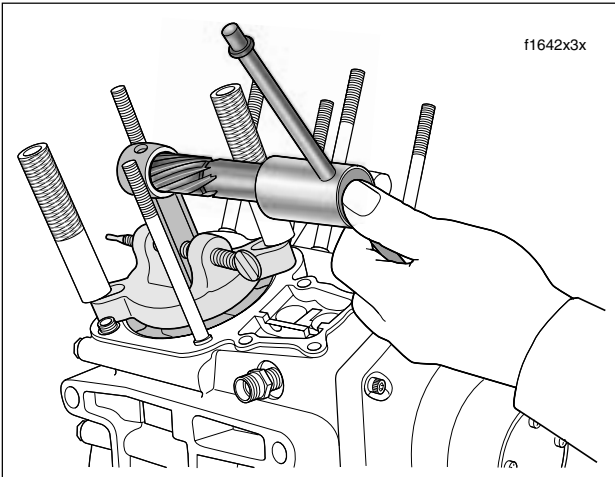

Figure 3-98. Ream Connecting Rod Bushing
- b. Install handle/driver socket on reamer lug. See Figure 3-98.